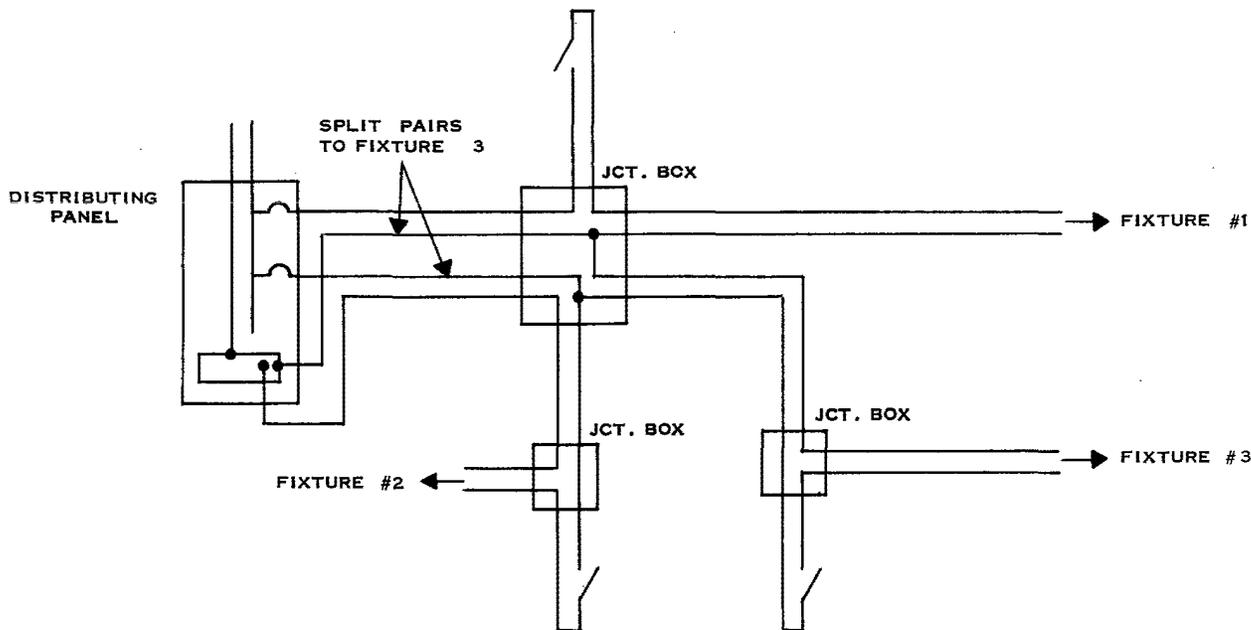

Fig. 2
**7.05 Correction of Improper Pairing in Lighting Circuits.** The following procedures should be used after the procedures of 7.02 have determined that the circuit is free of multi-grounded neutrals (Fig. 2).